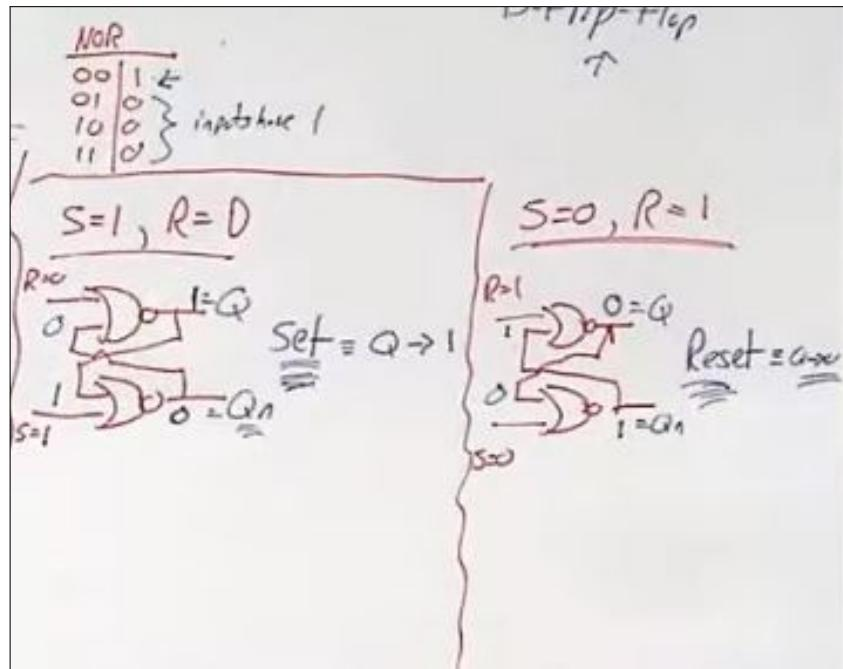

Figure 10.4: SR latch in Set Reset State
- Now we change either S or R as shown in Figure 10.4